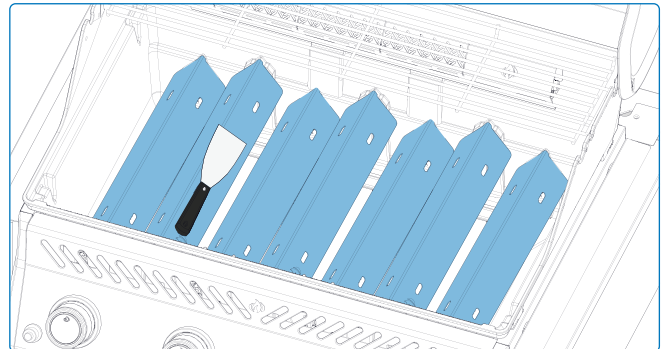

Fig. 9
- Light the burner and operate on high for 5–10 minutes to remove any leftover residue **(Fig. 9)**.